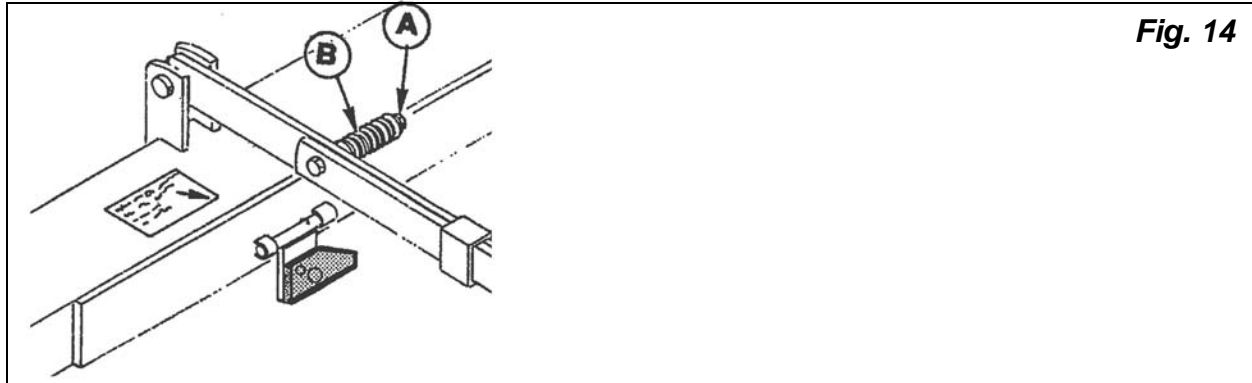

Fig. 14
To reset safety release; back up tractor until latch returns to its normal position. If safety release latch breaks away too often adjust spring (B) using nut (A) (**see fig. 14**) and tighten half turn at the time.